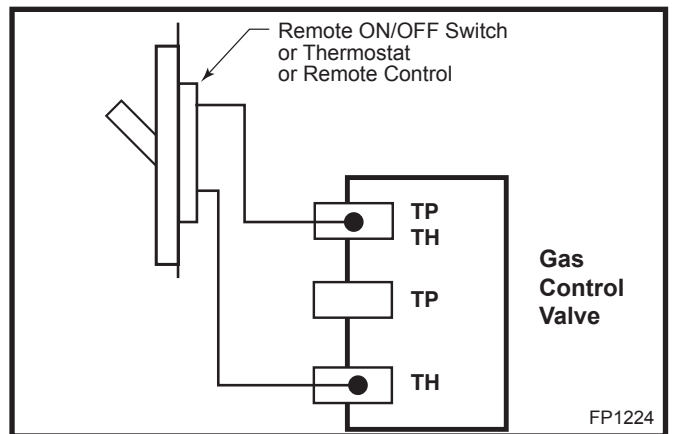

Fig. 8 Remote switch wiring diagram.
- Attach the wire to an ON/OFF switch (not supplied) and install the switch into the receptacle box. (Fig. 8)